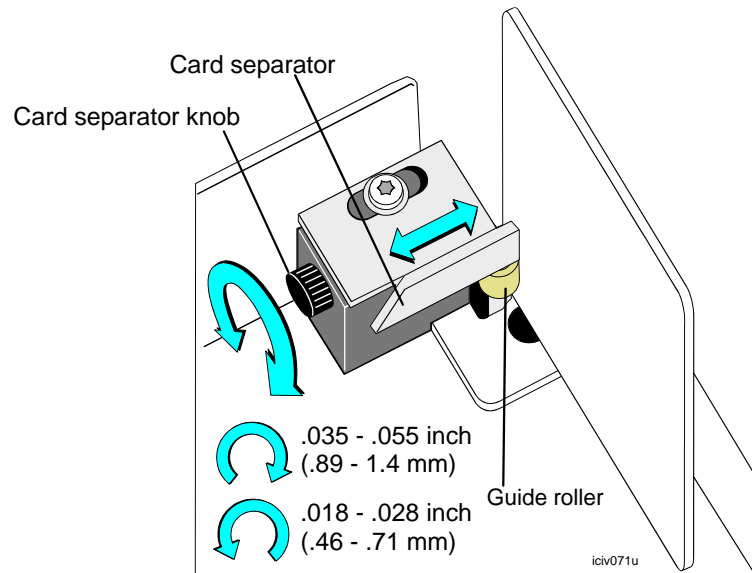

Figure 3-10: Set the card thickness
- 4 Place a card of the desired thickness between the guide rollers (Figure 3-10). Then, do the following: